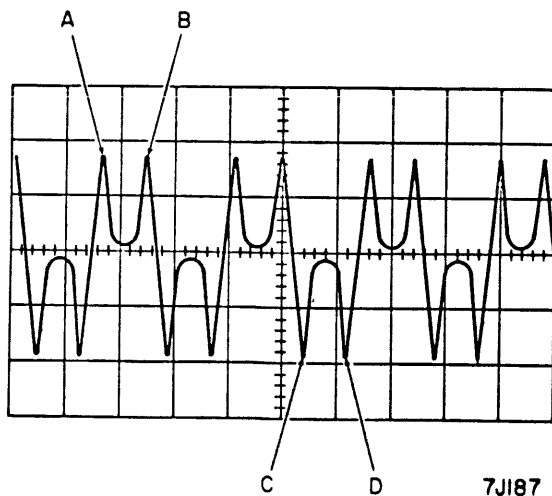

Figure 3-33. Balanced Dibit Pattern
8. Adjust head to obtain a balanced dibit pattern (Figure 3-33) on the oscilloscope. (Point A amplitude equals point B, point C amplitude equals point C.)